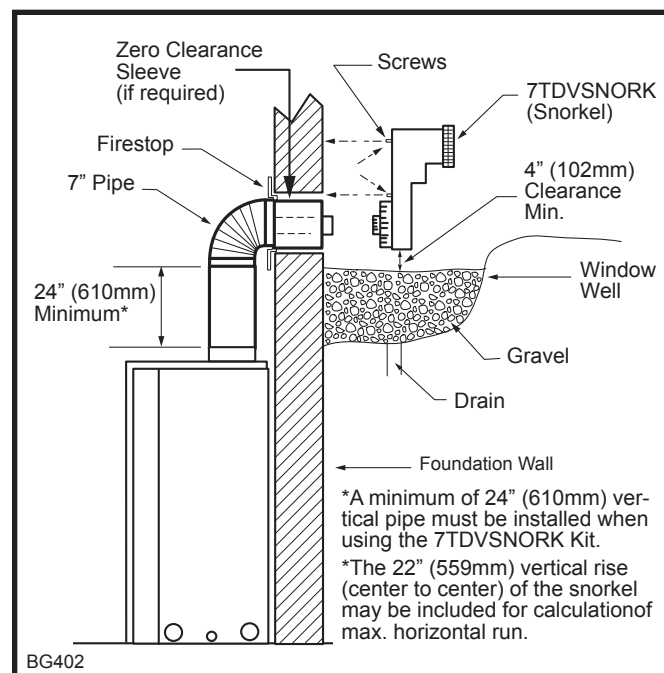

Fig. 26 Below grade installation.
2. Remove soil to a depth of approximately 16" (406 mm) below base of snorkel. Install drain pipe. Install window well (not supplied). Refill hole with 12" (305 mm) of coarse gravel leaving a clearance of approximately 4" (102 mm) below snorkel. (Fig. 26)
7. Level the soil to maintain a 4" (102 mm) clearance below snorkel. (Fig. 26)